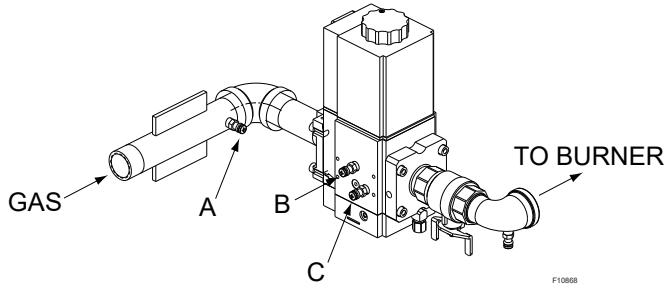

Figure 43. Gas Pressure Measurement Locations
2. Attach (1) 12" (305 mm) scale manometer to an upstream bleedle valve on the gas supply pipe to the heater (Measure point "A" in **Figure 43**).